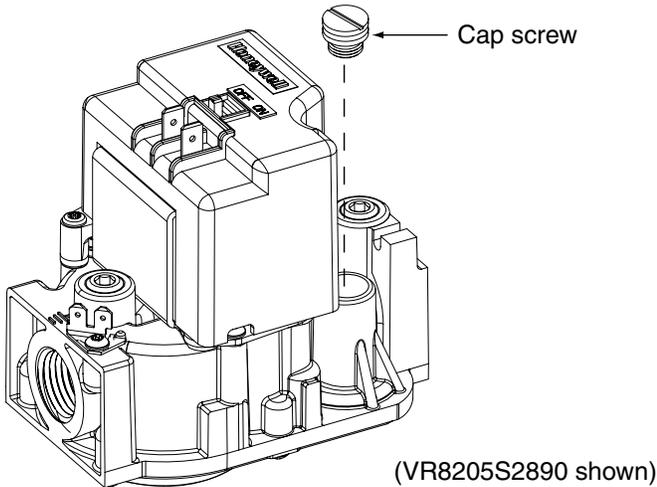
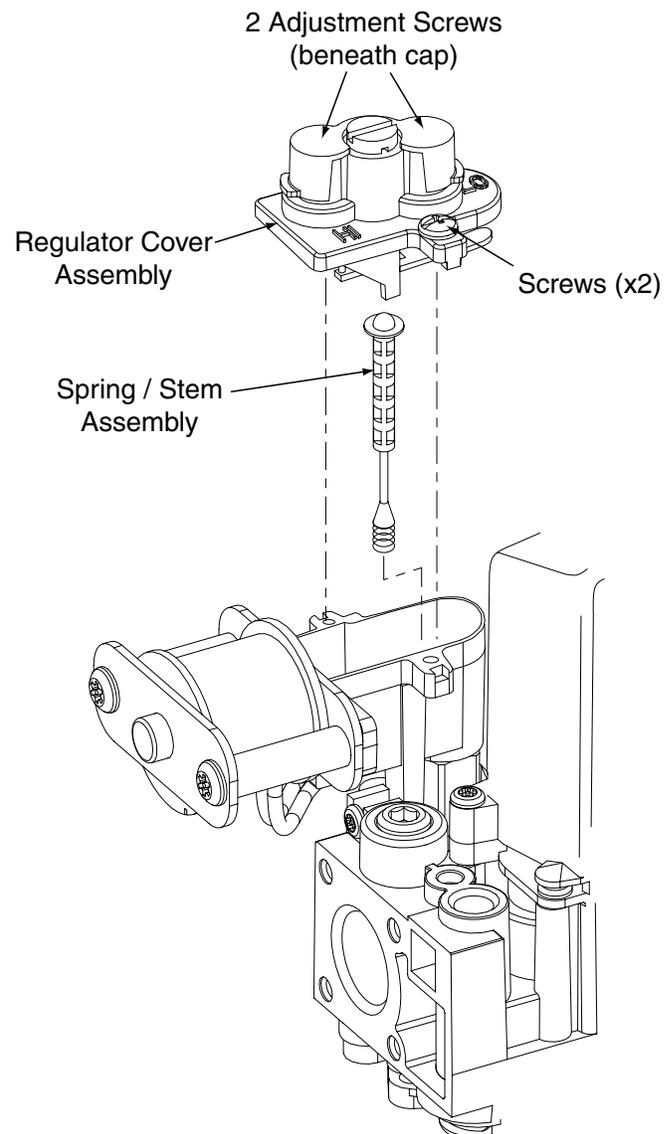
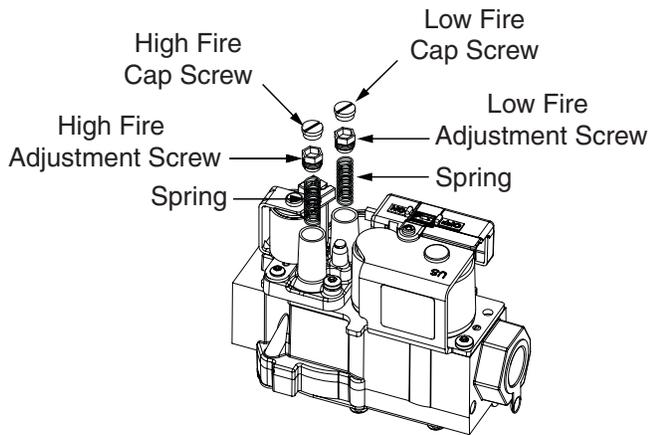

Figure 2. Cap Screw Removal
Figure 4. Spring / Stem Assembly Removal
Figure 5. Pressure Regulator Spring & Adjustment Screw Removal
1. Remove the cap screw from the gas valve as shown in Figure 2.
1. Remove two screws securing the pressure regulator cover assembly to the gas valve. Do not discard the screws. See Figure 4.
1. Remove the HIGH fire cap screw. See Figure 5.
1. Single stage gas valve: Remove the cap screw from the top of the gas valve regulator. See Figure 2 (page 4) for VR8205S2890 or VR8215S1289 models.
2-stage gas valve: For VR8205Q2381 models, remove the plastic cap covering the adjustment screws (Figure 4 page 4). For VR9205Q1127 models, remove the cap screw (Figure 5, page 5).
2. Using a screwdriver or Allen wrench (where appropriate), slowly turn the adjustment screw till the appropriate manifold pressure listed in Table 2 is achieved. See Figure 2 for VR8205S2890 or VR8215S1289 models. See Figure 4 for VR8205Q2381 models or Figure 5 for VR9205Q1127 models.